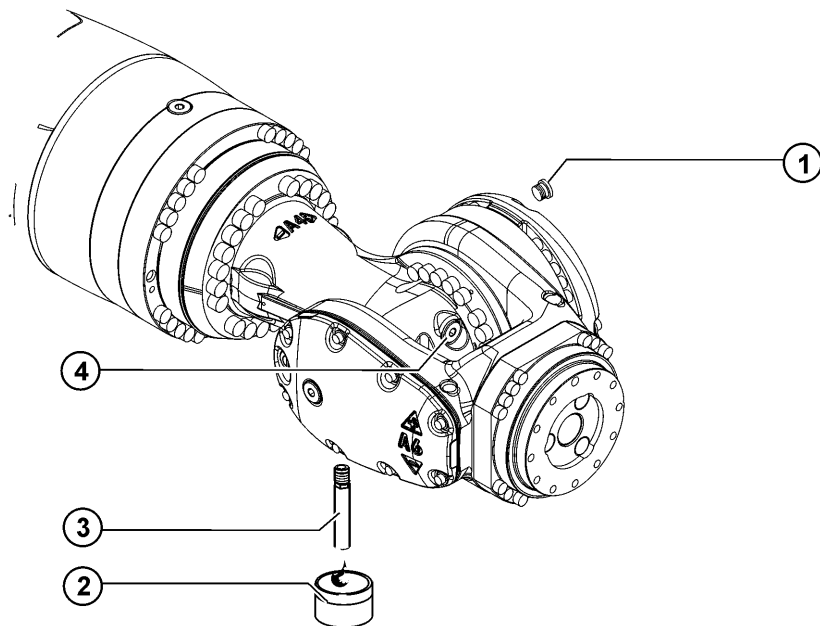

Fig. 9-7: Oil change, A5
2. Place a suitable receptacle (>>> Fig. 9-7) under the (lower) magnetic screw plug and remove the magnetic screw plug.